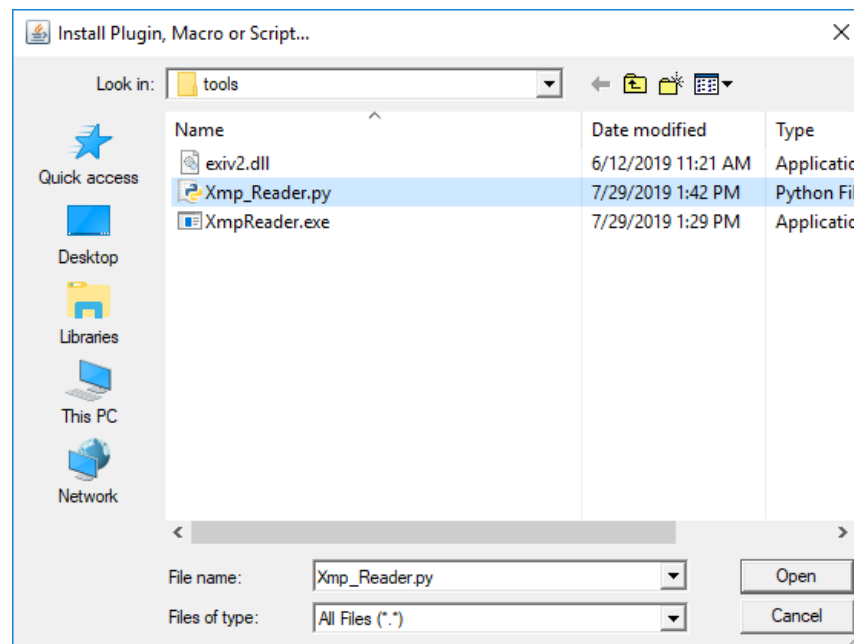

Figure 9: Plugin file browser
3. In the file browser that opens (Figure 9), navigate to and select the Xmp_Reader.py file, click “Open”.